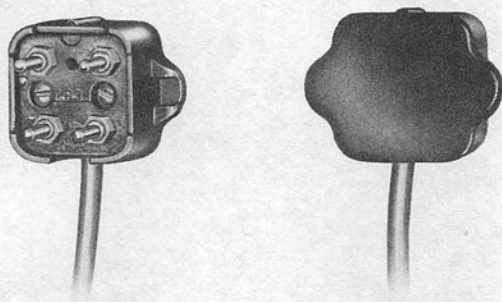

Fig. 40—283B Plug (MD)
3.02 The 283B plug (Fig. 40, 41, 42, 43) is a 2-piece, 4-contact plug of molded plastic in colors to match telephone set colors as shown in Table C. The mounting cord is secured by either a wing band inserted into a slot in the cover or an S hook or flat eyelet stay band secured with a self-tapping screw packed with the plug.